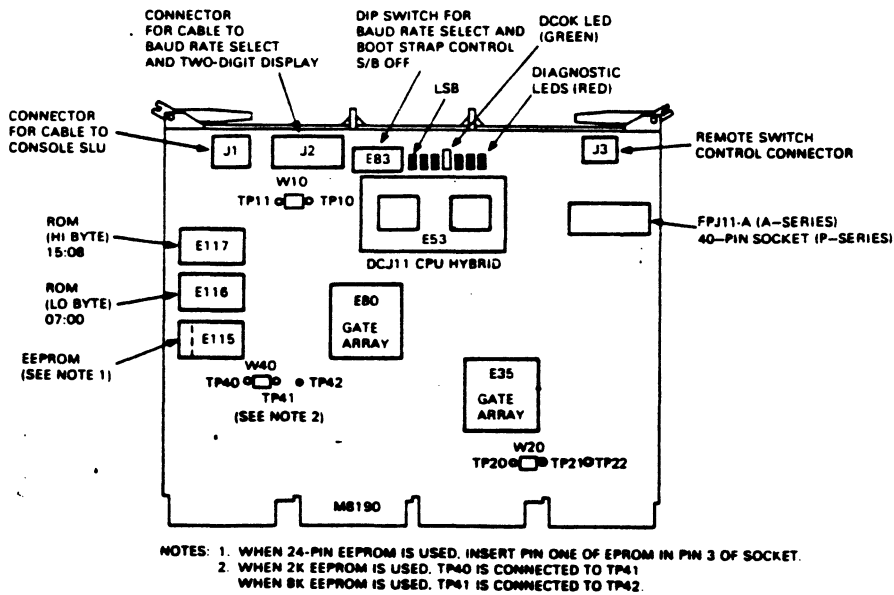

FIGURE 5-10 KDJ11-BF JUMPER AND SWITCH PACK LOCATIONS
2. Six red error code LEDs, which correspond to the Start-up diagnostic error codes (see Figure 5-10).
1. The module jumper configurations are as specified in Figure 5-10, and